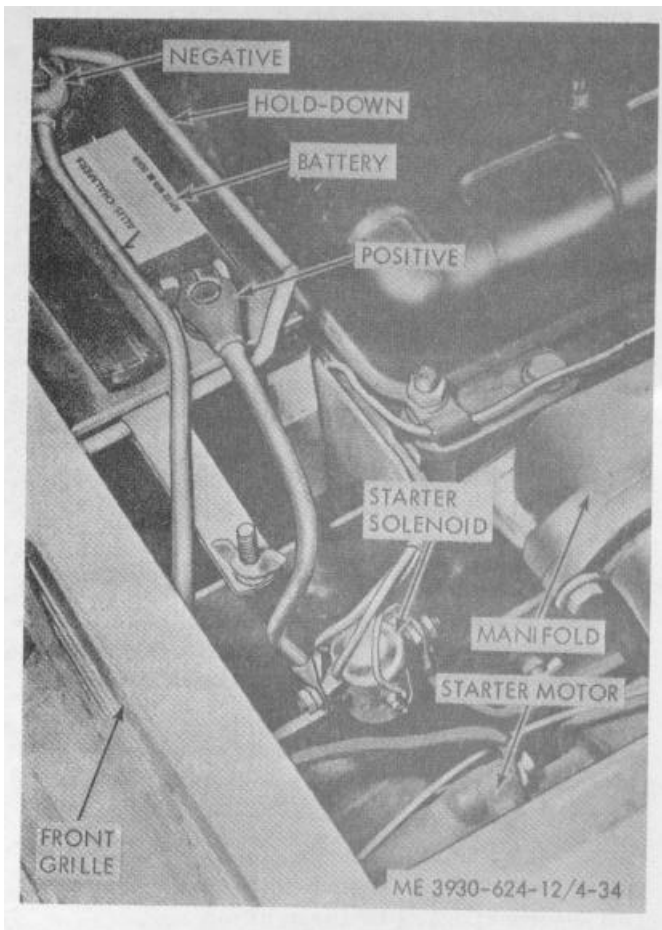

Figure 4-34. Battery location.
(1) Lift the operator's seat to obtain access to the storage battery (fig. 4-34).
(1) Loosen the nuts (fig. 4-34) that secure the battery cables to the battery posts; remove the cables.
(2) Remove the two wing nuts from hold-down studs and remove battery hold-down. Remove the battery.
(1) Clean the battery tray and hold-down by flushing with a solution of baking soda and water. Flush parts until bubbling stops when new solution is applied.
(2) Inspect the battery for loose posts, cracks, evidence of leaks, or other damage.
*f. Cable Removal.* (fig. 4-34).
(1) Loosen the nuts that secure the cables to the battery posts; disconnect the cables. Remove the cable clamp that secures the cables to the truck frame.
(2) Remove the starting motor mounting bolt and lockwasher that secure the negative cable to the frame of the truck; remove the cable.
(3) Remove the nut and washer that secure the positive cable to the starter solenoid; remove the cable.